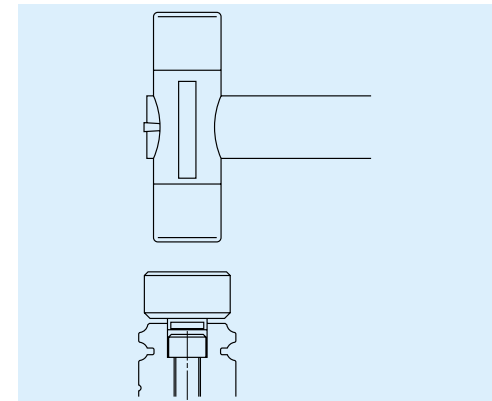

Fig. II-5-7
- To insert a cap into the rail bolt hole, use a flat tool (Fig. II-5-7). Pound the cap gradually until its height becomes flush with the rail top face.